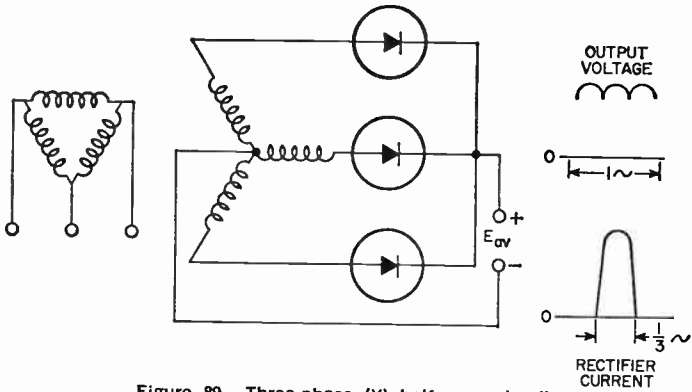
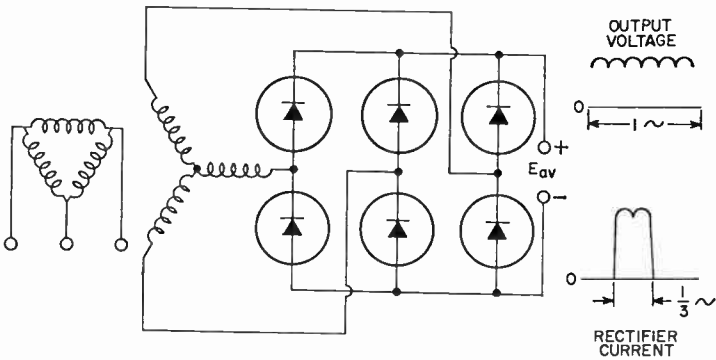
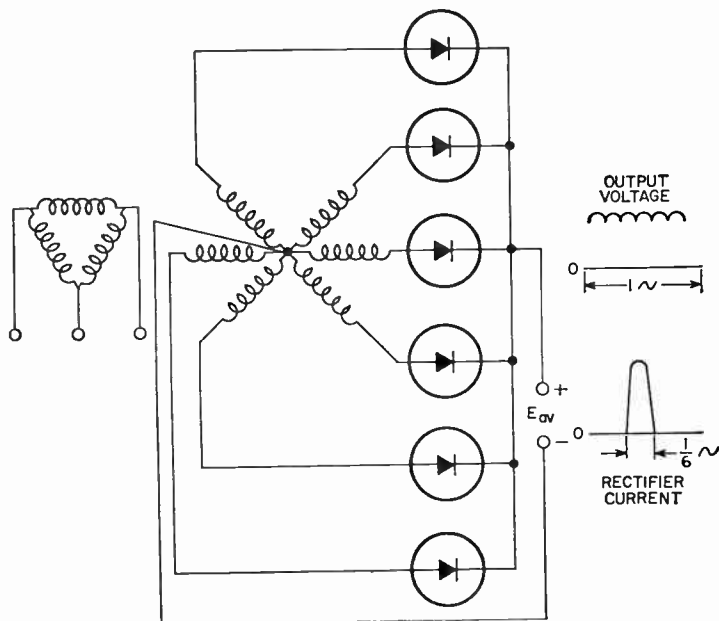
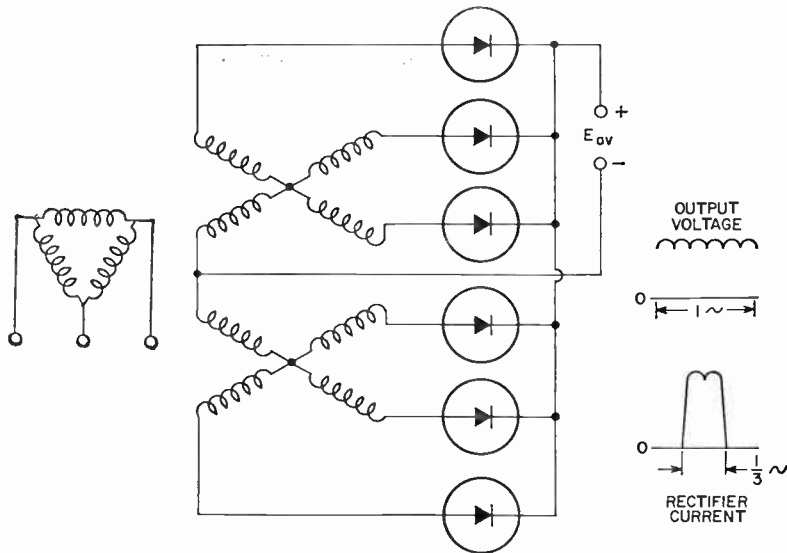

Figure 89. Three-phase (Y) half-wave circuit.
Figure 90. Three-phase (Y) full-wave bridge circuit.
Figure 91. Six-phase "star" circuit.
Figure 92. Three-phase double-Y and interphase transformer circuit.
The three-phase circuits shown in Figs. 89 through 92 are usually found in heavy industrial equipment such as high-power transmitters. The three-phase (Y) half-wave circuit shown in Fig. 89 uses three rectifier cells. This circuit has considerably less ripple than the circuits discussed above. In addition, it allows only one-third of the total current to flow
Fig. 90 shows a three-phase (Y) full-wave bridge circuit which uses a total of six rectifier cells. In this arrangement, two half-wave rectifiers are connected in series across each leg of a high-voltage transformer. This circuit delivers twice as much voltage output as the circuit of Fig. 89 for the same voltage condi-
tions. In addition, this circuit, as well as those shown in Figs. 91 and 92, has an extremely small percentage of ripple and a very low ratio of peak-to-average voltage.
The six-phase "star" circuit shown in Fig. 91, which also uses six rectifier cells, allows the least amount of the total current (one-sixth) to flow through each cell. The three-phase double-Y and interphase transformer circuit shown in Fig. 92 uses six half-wave rectifiers in parallel. This arrangement delivers six current pulses per cycle and twice as much output current as the circuit shown in Fig. 89.